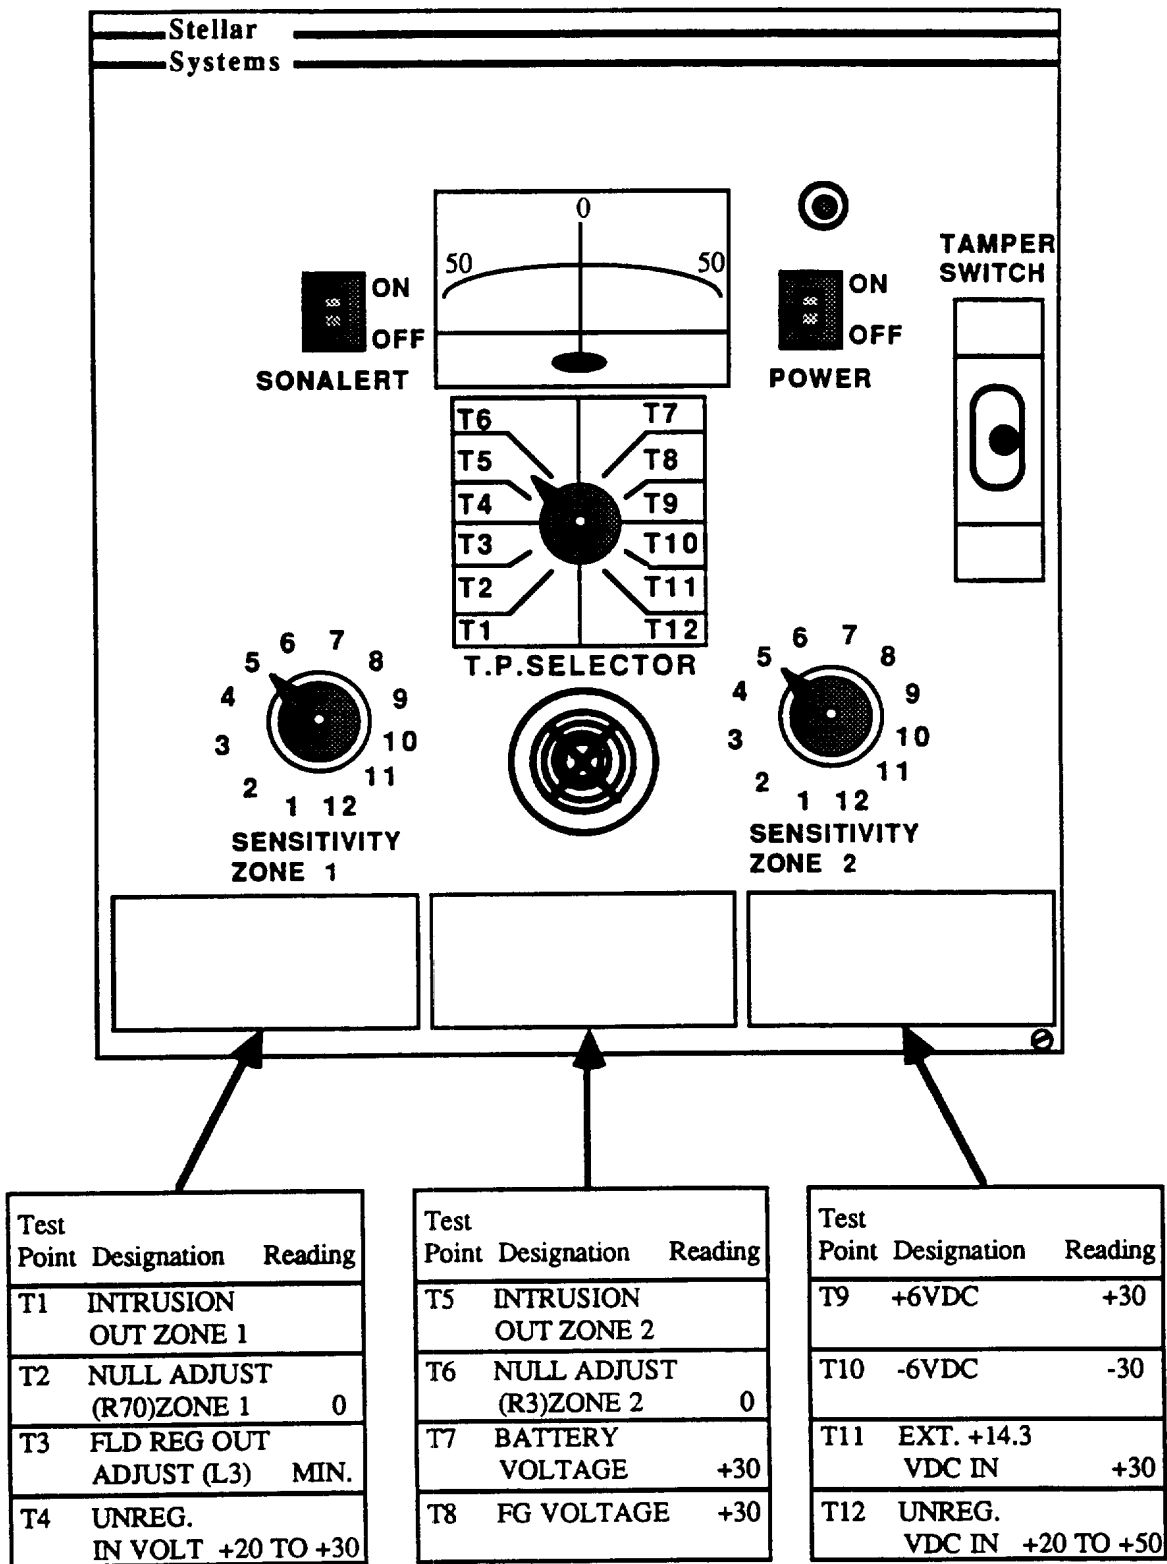

Figure 1-4. Front Panel, Dual Zone Processor
(See Figures 1-4)
* S1 must remain in position 1 on front panel EF-810/ EF-820 model processors. This switch is physically located on the electronic processor boards. Do not use S 1 to set sensitivity levels when a front panel sensitivity switch, S2, is present. See Figures 1-4 and 1-5 for switch locations.